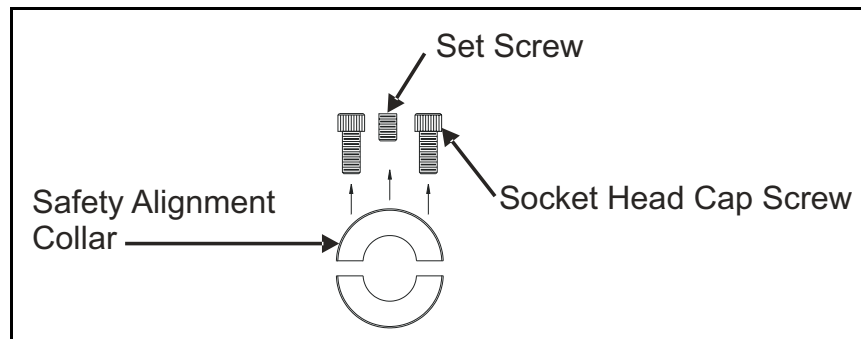

Figure 25: Preparing the Safety Alignment Collar for Installation
2. Use an Allen wrench to remove the two socket head cap screws and the set screw from the safety alignment collar (see *Figure 25* below).